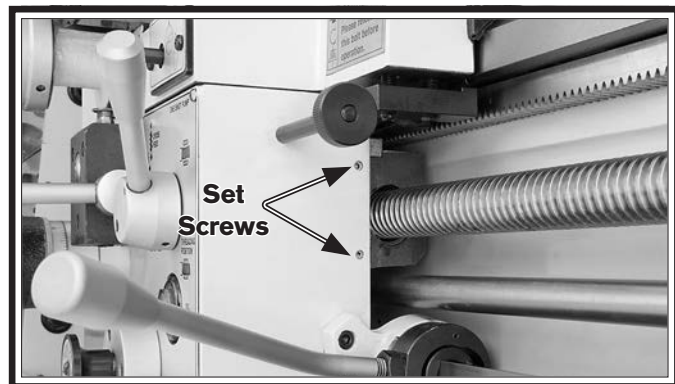

Figure 121. Half nut gib adjustment.
2. Turn the two set screws (see **Figure 121**) clockwise to tighten the half nut and counterclockwise to loosen it.